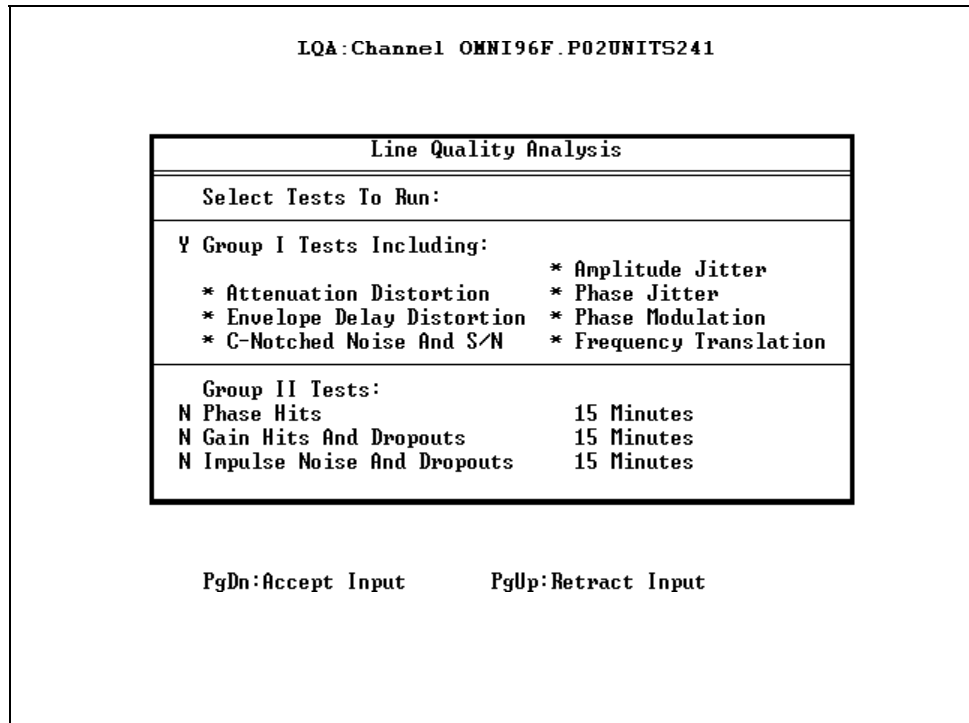

Figure 2-1. LQA Test Selection Screen
3. Select **Initiate Tests** and the standard **Unit Criteria Selection** screen is displayed. Select a remote unit to place into test and press **PGDN**. The selected unit is polled to determine its current status. The **LQA Test Selection** screen is displayed (refer to Figure 2-1).